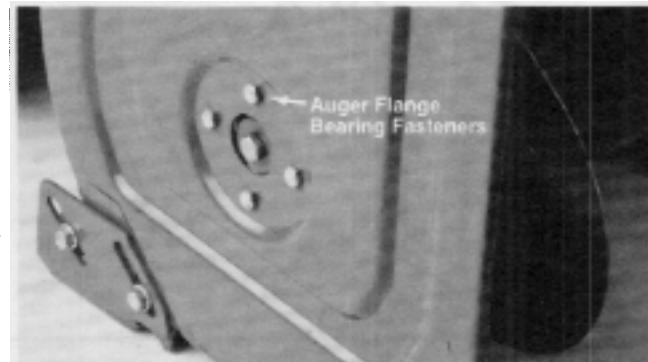

Figure 100
7. Remove the eight cap screws and locknuts that secure the auger flange bearings to the side plate. See Figure 100.